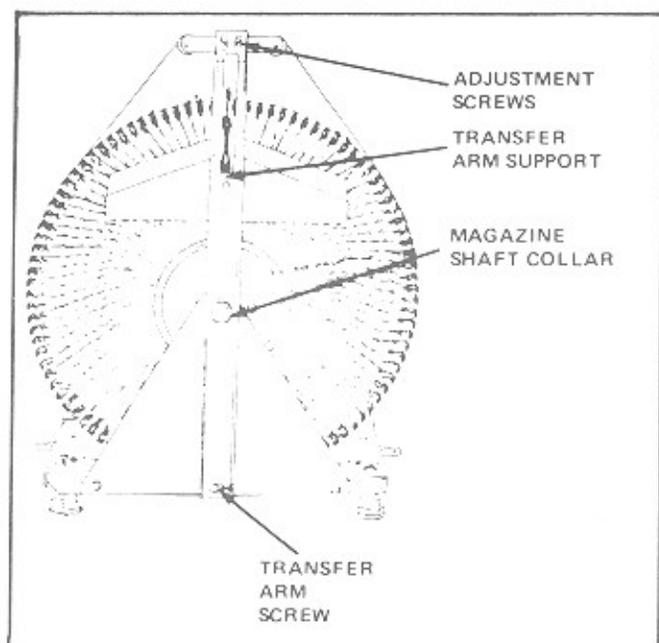

Figure 3-14. Magazine Belt Adjustment
1. Loosen the two adjustment screws shown in figure 3-14.